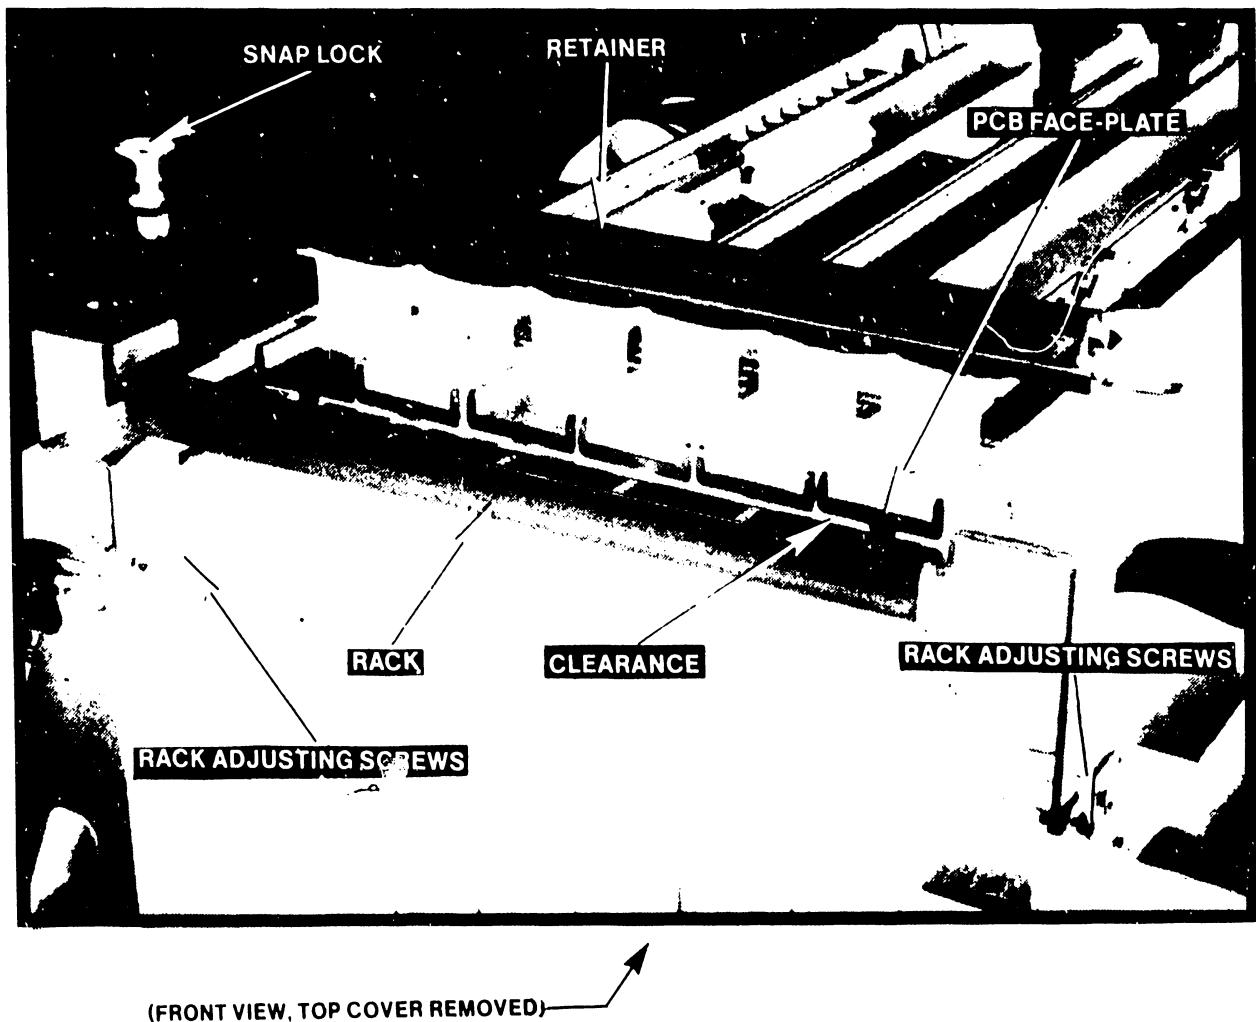

Figure 4-16 PCB Removal/Installation on 105/115/125A/130A Masters
1. Remove the two board retainers Figure 4-16.
The TC controller is secured to the motherboard by two board retainers as shown in Figure 4-16.
5. Replace the board retainers (see Figure 4-16).